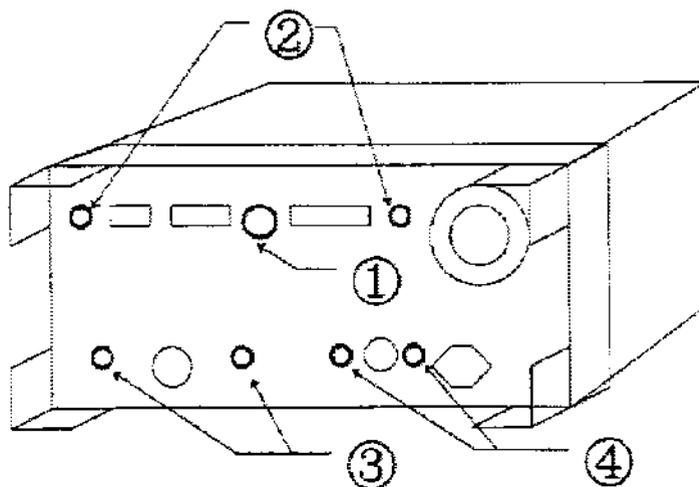
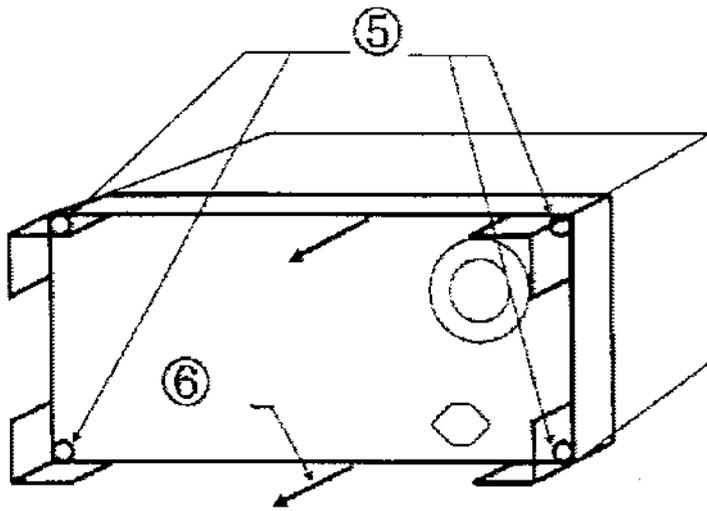

Fig.4
Fig.5
- ① Remove Hexagon nut and washer of EXTERBAL TRIGGER port on the rear panel (Refer to Fig.4)
- ② Remove 2pcs screws for CPU/AD board fixed on the rear panel.(Refer Fig4)
- ③ Remove 2pcs screws for RF block fixed on the rear panel.
- ④ Remove 2pcs screws for Probe power on the rear panel (if installed)
- ⑤ Remove 4pcs Hexagon head screws as shown Fig.5
- ⑥ Pull FRAME REAR off from main frame.(Refer to Fig.5)